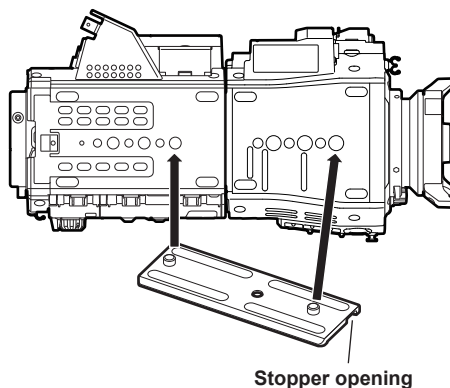

Fig. 2
- 3 Orient the stopper opening of the slide rail toward the front of the camera, and securely mount to the bottom of the camera with the supplied two screws on the screw holes indicated in the figure. (Fig. 2)